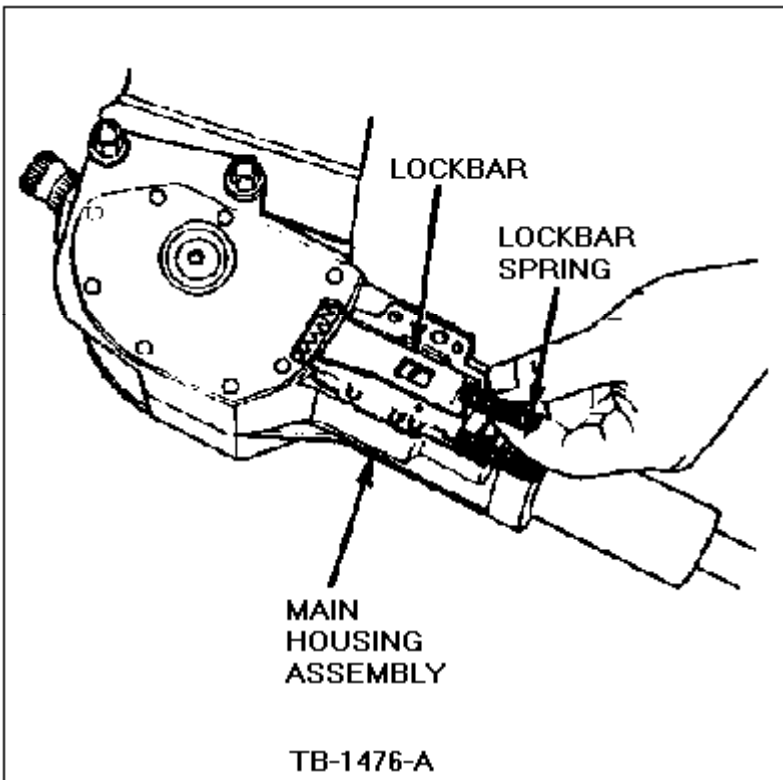

Figure 9 - Article 90-5-10
10. Remove the lockbar with the lockbar spring, Figure 9.